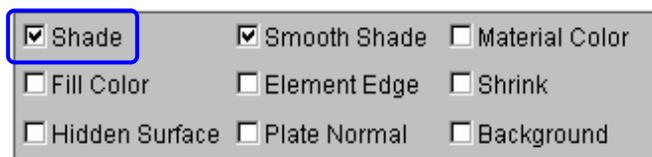

Figure 2.47 Display options
2. Toggle on the **Shade** checkbox in the display options illustrated in Figure 2.47. The **Smooth Shade** option is also toggled on by default to enable smooth and continuous model display.